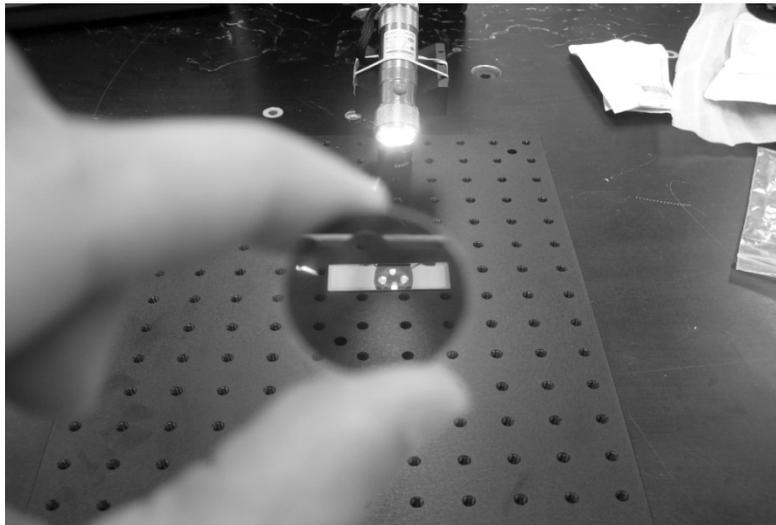

Figure 3 *Polarization by Reflection Set-up*
6. Position yourself in line with the microscope slide and the LED flashlight. Move until you can see the reflection of the individual LEDs on the microscope slide. This makes the effect of the polarizing filters much easier to notice. Refer to Figure 3.